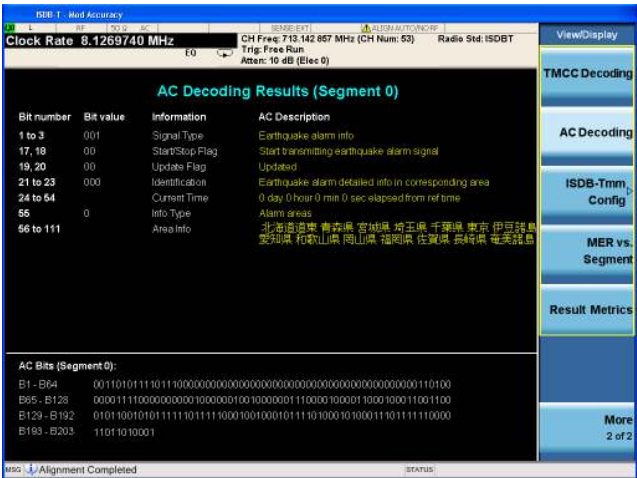

Figure 17. Modulation accuracy measurement with AC decoding view
View the AC decoding results (Figure 17)	[View/Display] {AC Decoding}
- **AC decoding** view (Figure 17): This view displays the earthquake alarm information carried in the AC bits.